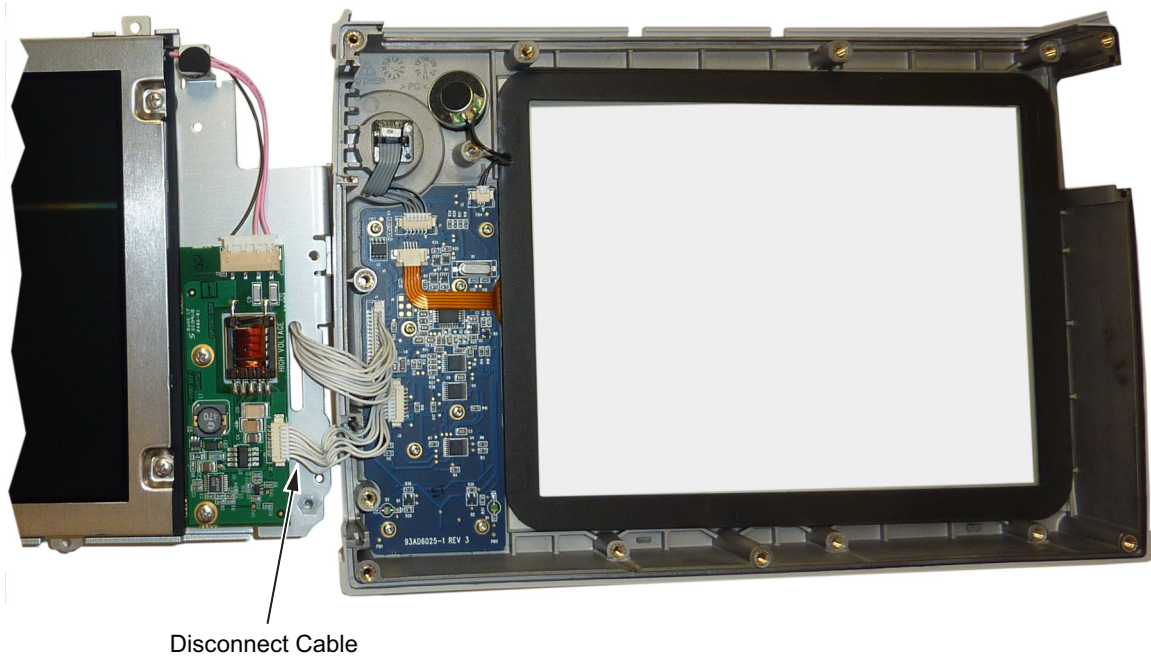

Figure 7-12. Replacing the LCD Assembly
- Turn the LCD assembly over and disconnect the front half of the case from the LCD assembly (Figure 7-12).